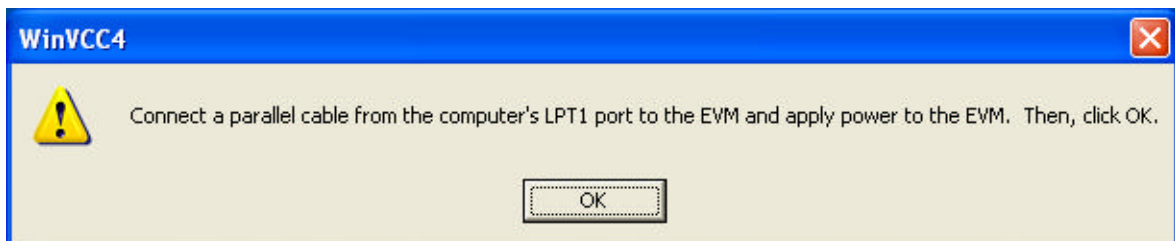

Figure 23. Corrective Action Required
- b. The dialog box shown in Figure 23 appears instructing you to correct the problem.